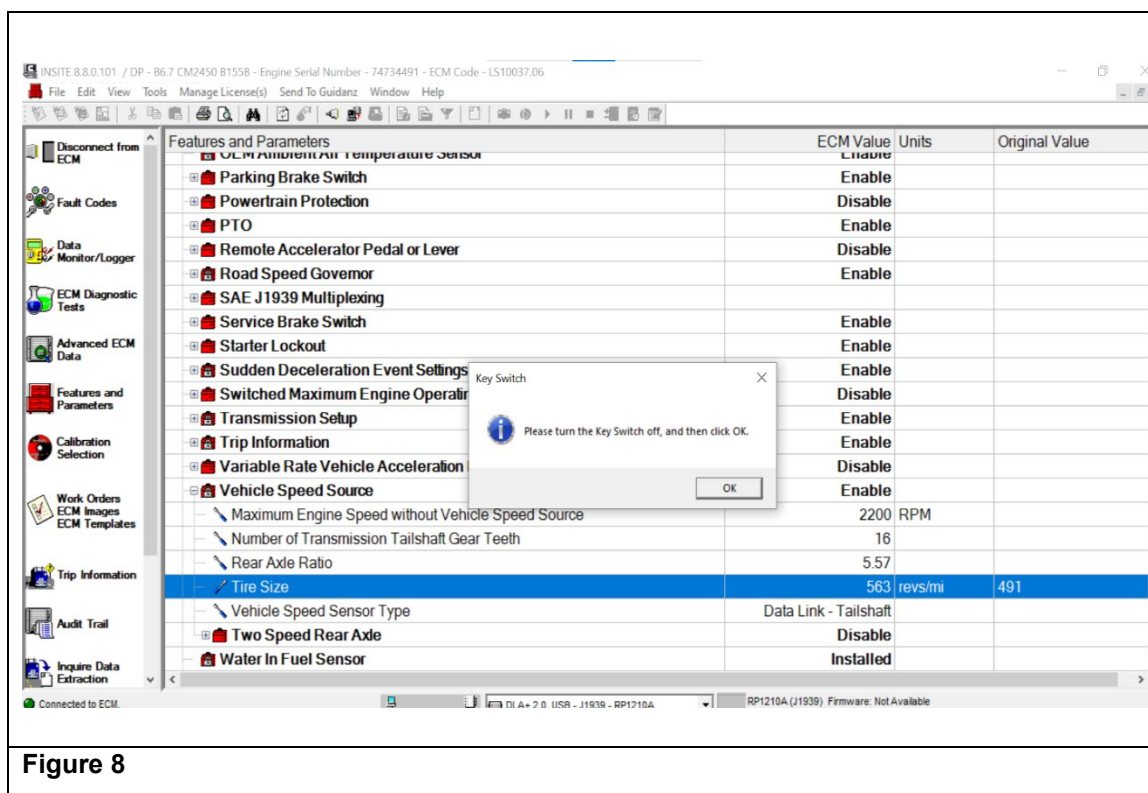

Figure 8
12. Turn key switch OFF, and click OK. (See Figure 8.)